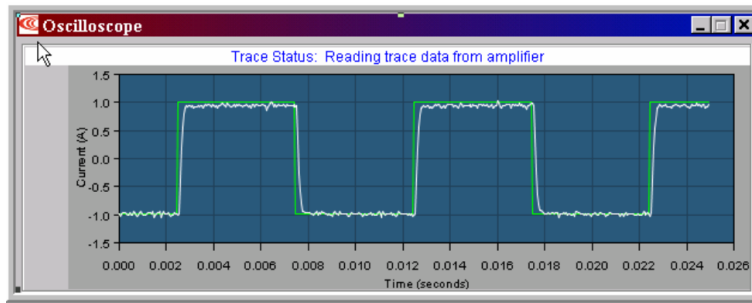

Figure 15.11: A plot of the reference square wave current and the actual measured current during PI current controller tuning.
2. **Tune the inner current control loop.** Set a limit on the recent current to avoid overheating the motor. This limit is based on the integral $\int_{T_1}^{T_2} I^2(t)dt$, which is a measure of how much energy the motor coils have dissipated recently. (When this limit is exceeded, the motor current is limited to the continuous operating current until the history of currents indicates that the motor has cooled.) Also, tune the values of P and I control gains for a PI current controller. This tuning is assisted by plots of reference and actual currents as a function of time. See Figure 15.11, which shows a square wave reference current of amplitude 1 A and frequency 100 Hz. The zero average current and high frequency of the reference waveform ensure that the motor does not move during current tuning, which focuses on the electrical properties of the motor.